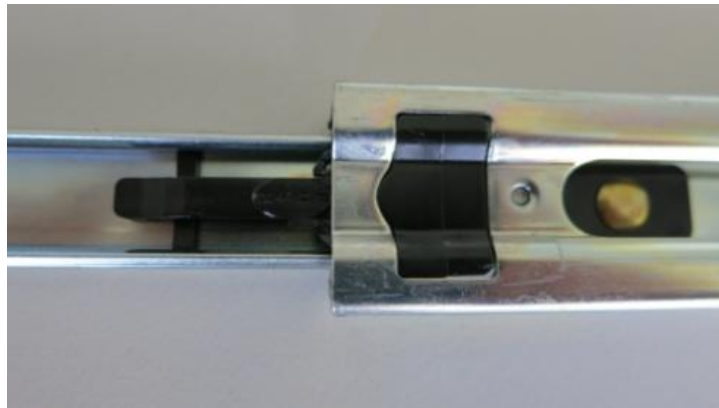

Figure 187 – Slide Clips
2. Refer to Figure 187. Find the rack slide lock labelled **Push** and push it in whilst sliding the instrument out of the rack, complete this for both sides while carefully removing instrument.